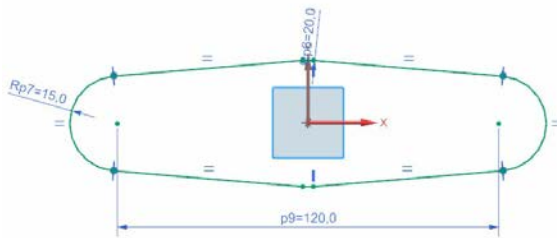

Figure 4-111 Sketch after adding relationships and dimensions
- b. Add the required dimensions and constraints to the profile, refer to Figure 4-111.
8. Add dimensions to the sketch using the **Rapid Dimensions** tool, refer to Figure 4-111.